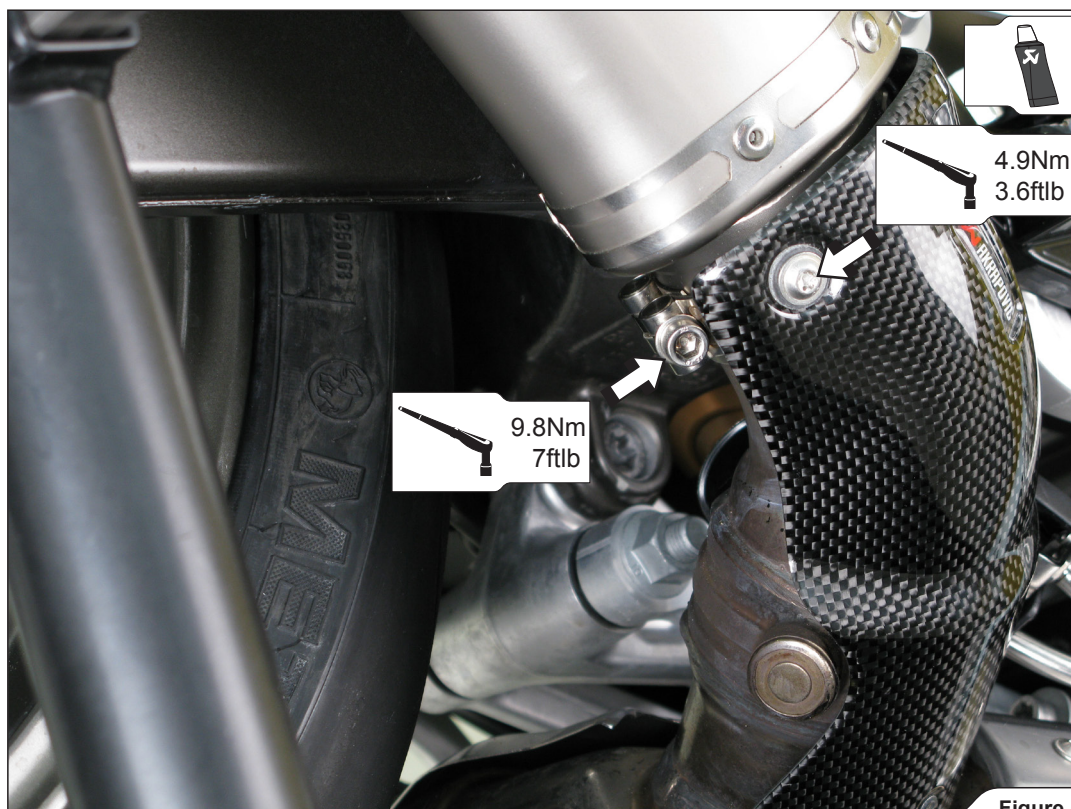

Figure 5
4. Tighten the clamp and heatshield to a specified torques (**Figure 5**).